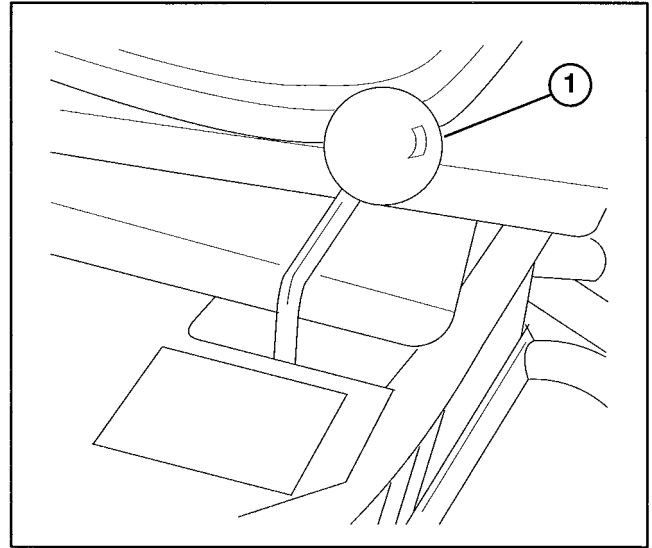

Figure 21
SHIFT SELECTOR (Fig. 21) – Located on the top of the right hand panel. Provides two (2) traction selections, plus a "NEUTRAL" position. It is permissible to shift from one selection to another while the Greensmaster 3050 is in motion. No damage will result.